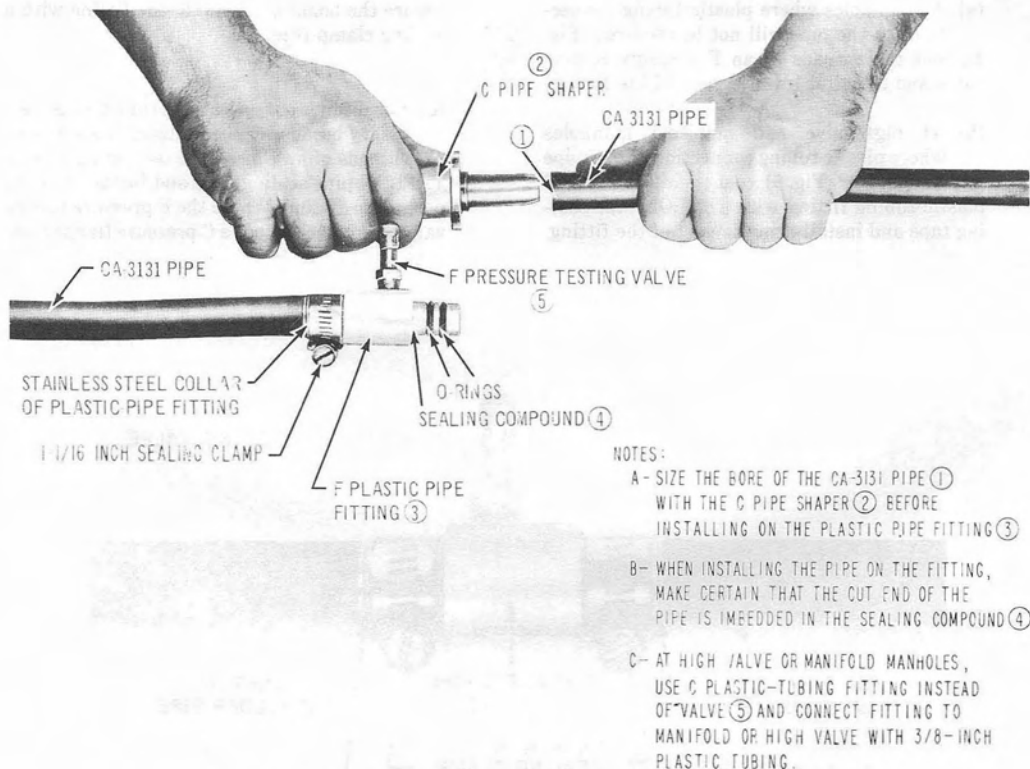

Fig. 3—Connecting Two Sections of CA-3131 Air Feeder Pipe
5.03 Referring to Fig. 3, permanent connections are made to the CA-3131 air feeder pipe as follows:
(1) Expand the bore of the pipe with the C pipe shaper (Fig. 3), just as installing a plastic pipe fitting.